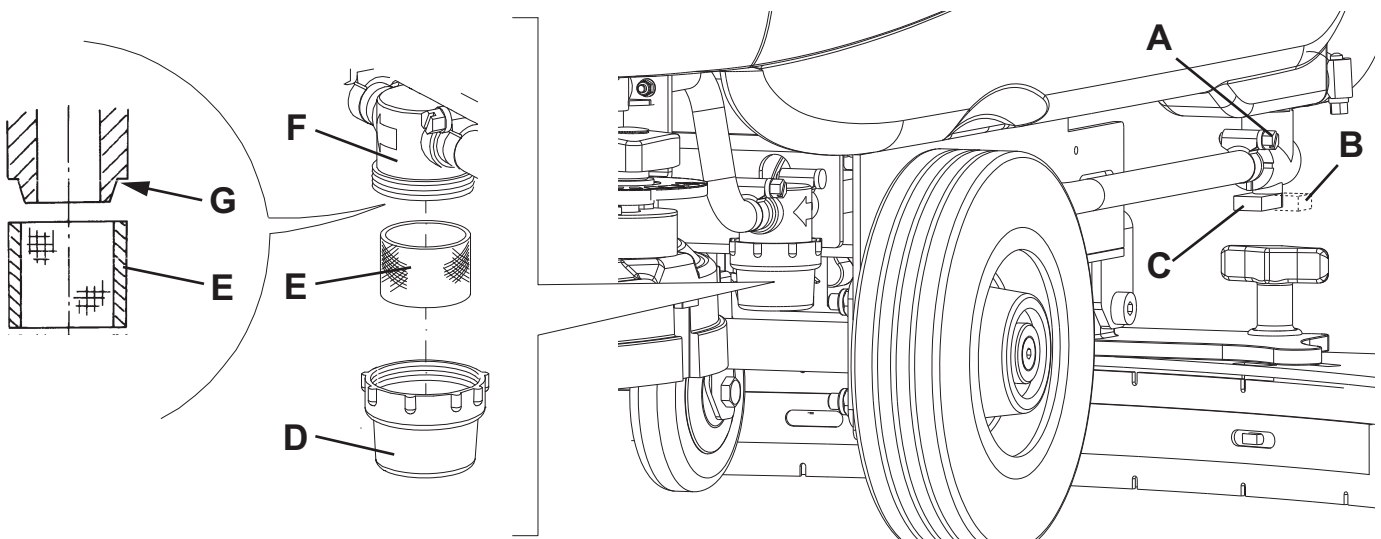

Figure 7
2. Turn the ignition key (80) to "0".
3. Close the solution tap (A, Fig. 7) under the machine, behind the right rear wheel. The tap (A) is closed when it is in the position (B) and it is open when it is in the position (C).
4. Remove the transparent cover (D), then remove the filter strainer (E). Clean and install them on the support (F).